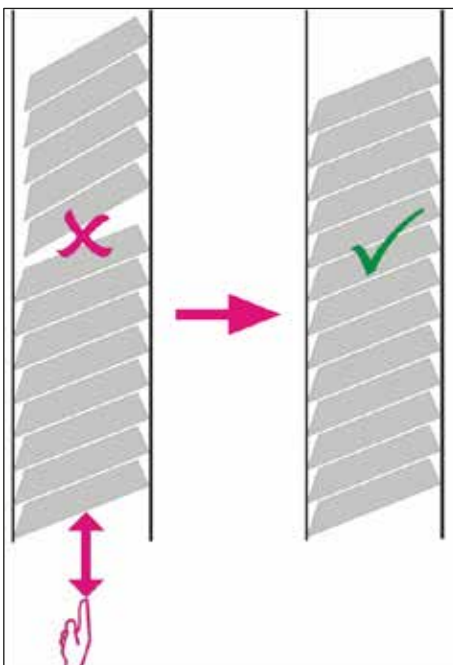

Fig. 29
- ✓ The cassettes should then lie in the magazine properly (→ "Fig. 29").
- If taped cassettes are used, make sure the newly inserted stack aligns perfectly with the previously loaded cassettes (→ "Fig. 29").